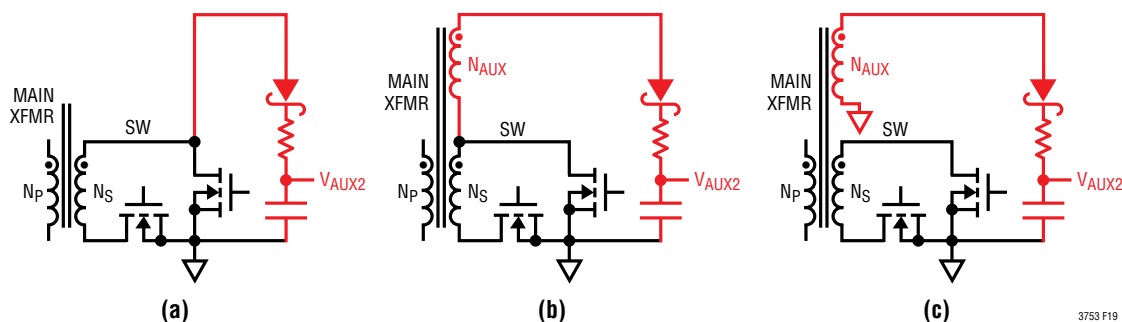

Figure 19. Peak Charge Supply: (a) Directly from SW, (b) For Low V_{OUT} Applications, (c) For High V_{OUT} Applications
- (4) Use a peak-charge circuit (Figures 19 (a), (b), (c)).